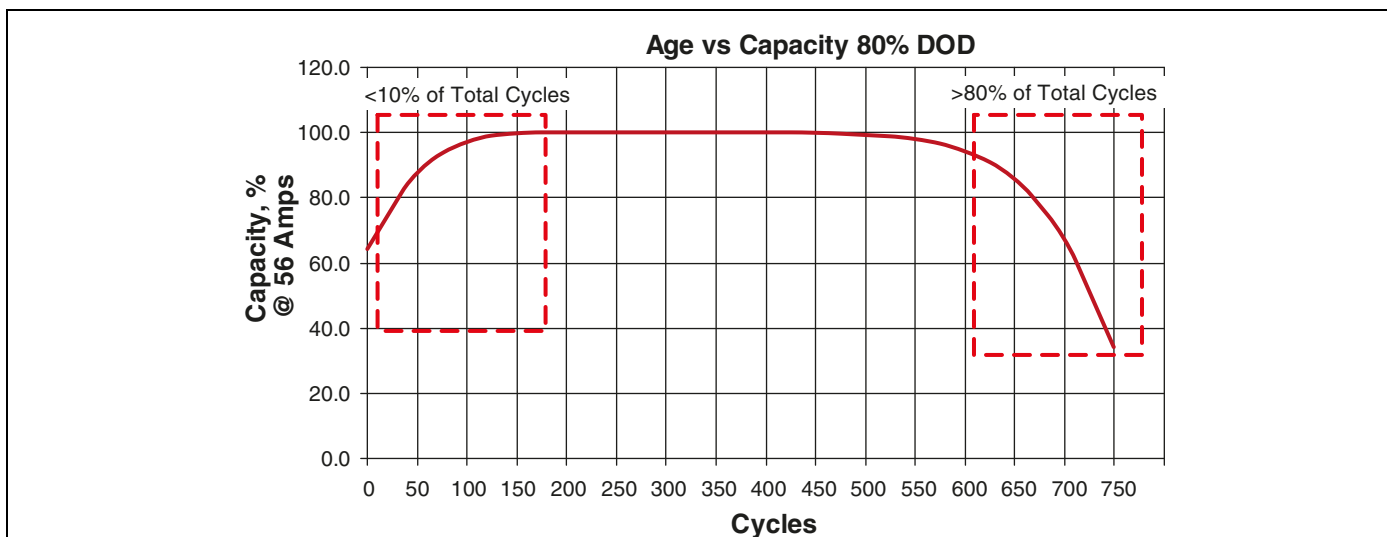
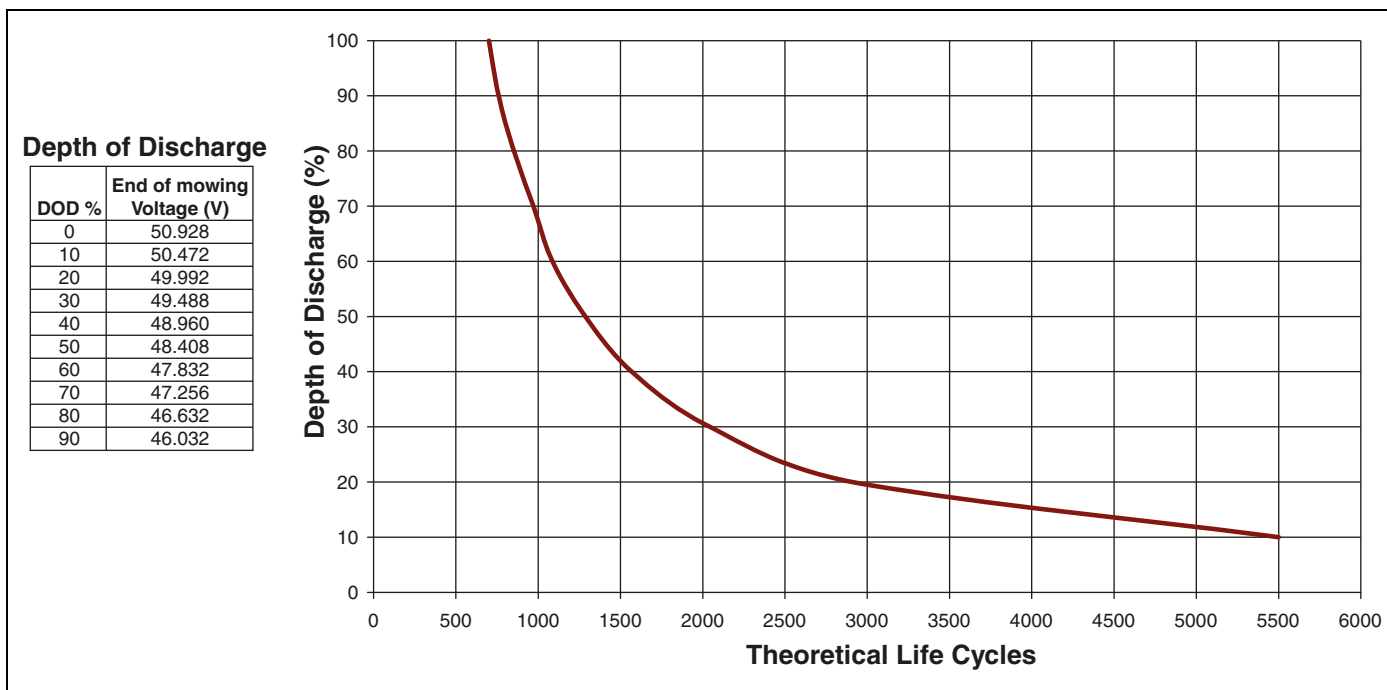

Figure 3A
Figure 3B
A new battery set must go through a conditioning process before it will develop its maximum capacity. Conditioning may take up to 50 charge/discharge cycles until full capacity and run time are achieved. A battery has a maximum life, therefore good maintenance is designed to maximize the **available** life and reduce the factors that can reduce the life of the battery. Refer to **Figure 3A** for battery age vs. capacity chart.
Chart shown in **Figure 3A** refers to an 80% Depth of Discharge (DOD) with theoretical life of 750 cycles.
The charts shown in **Figure 3A** and **Figure 3B** are provided for reference only and is to be used as a guideline for estimating capacity of a battery pack. Actual battery life may be shorter or longer, depending on the actual DOD experienced by the battery set, and maintenance battery set receives.
**Figure 3B.** These values are based on a standard 78° F (25.5° C) battery temperature. Using the DOD refer to the right side chart in **Figure 3B** to determine theoretical life cycles.